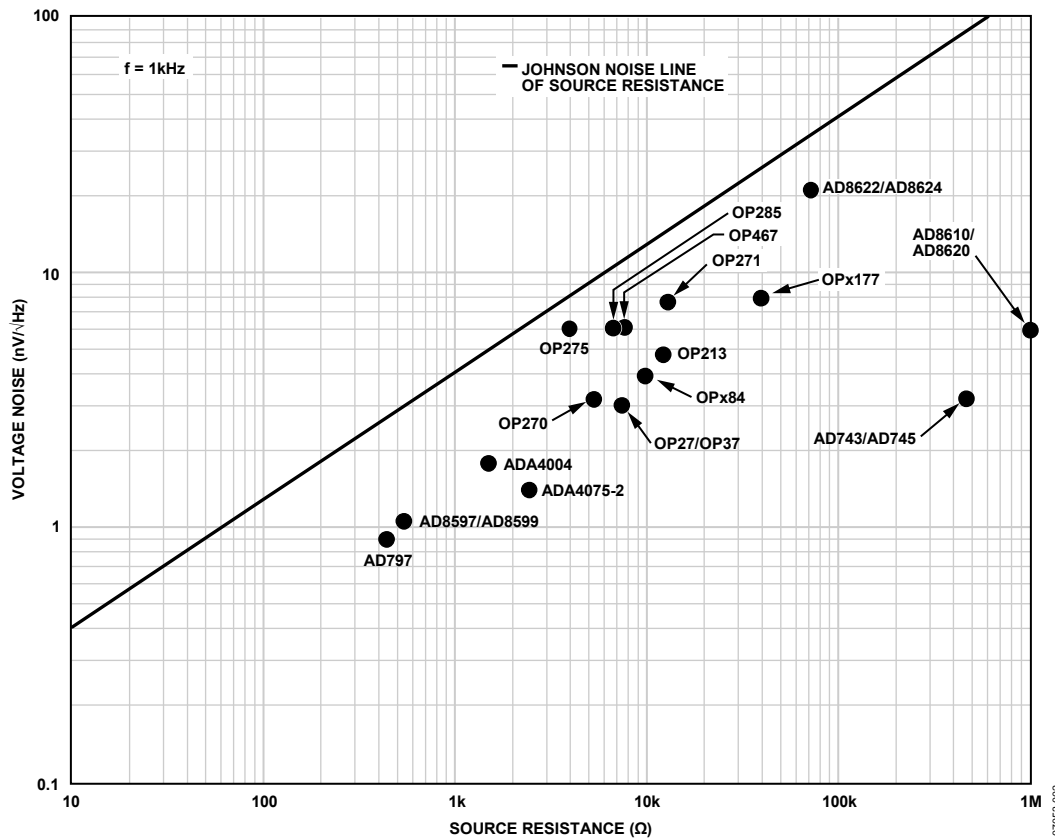

Figure 6. Analog Devices Op Amp Noise Plot
Figure 6 shows a comparison of the voltage noise density of a number of high voltage (up to 44 V) op amps from Analog Devices, Inc., vs.  $R_{S,OP}$  at 1 kHz. The diagonal line plots the Johnson noise associated with resistance.
- The Johnson noise associated with this device is equivalent to a source resistor of about 69.6  $\Omega$  (see Figure 6).